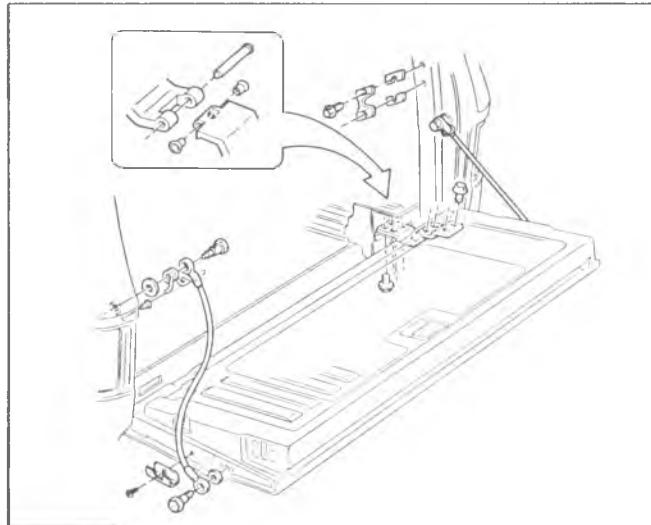

Fig. 55—Endgate, Hinges and Support (14)
- disconnect support cables from endgate. See figure 55.
1. Lower endgate and disconnect hinge to be replaced by removing hinge-to-body bolts. See figure 55.